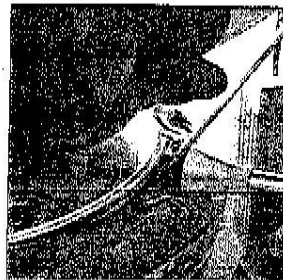
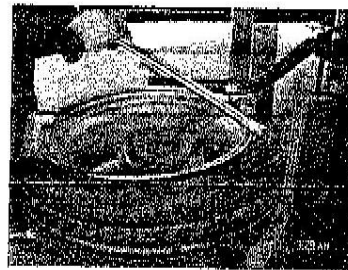

Fig.12
Fig.13
6. Insert the lever(M) into the bead between the plastic roller(R) and mount/demount head C(Fig.12), place the plastic block (S) on the other side of the rim, then move away the plastic roller(R), press the tyre by swing the lever (M), to Lift the bead onto the mount/demount head(C)(Fig. 13), step on the pedal (O), to turn the turntable clockwise till the bead is completely separated, it is suggested to place the mount/demount head about 10mm to the right side of the air valve , avoiding damage the tyre